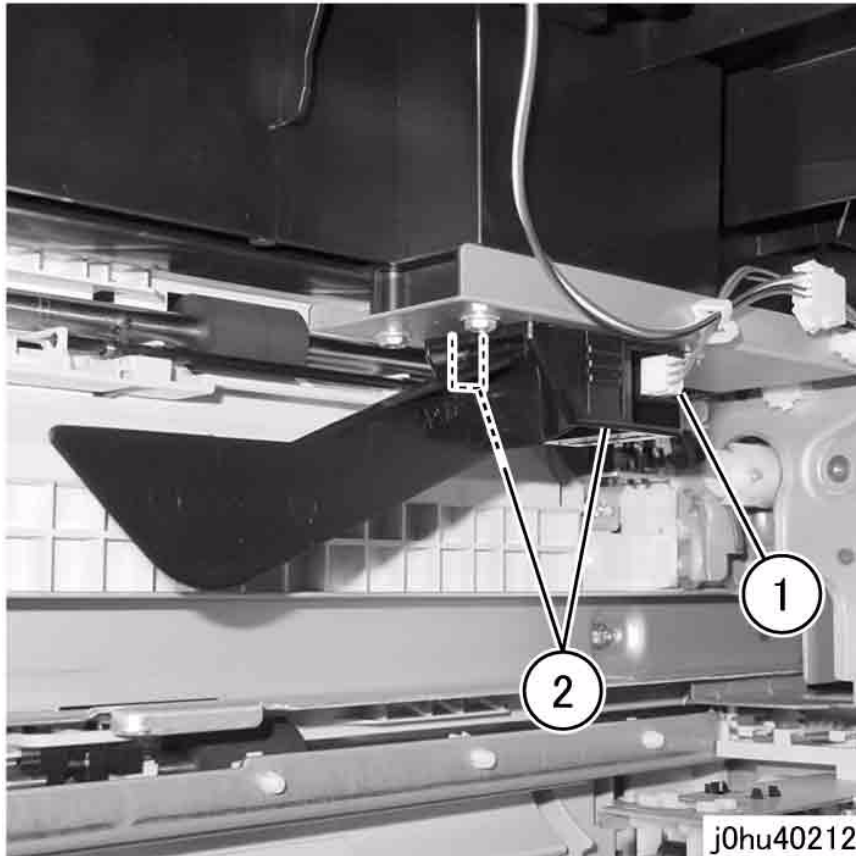

Figure 1 Remove the Sensor Housing
3. Remove the Sensor Housing (Figure 1).